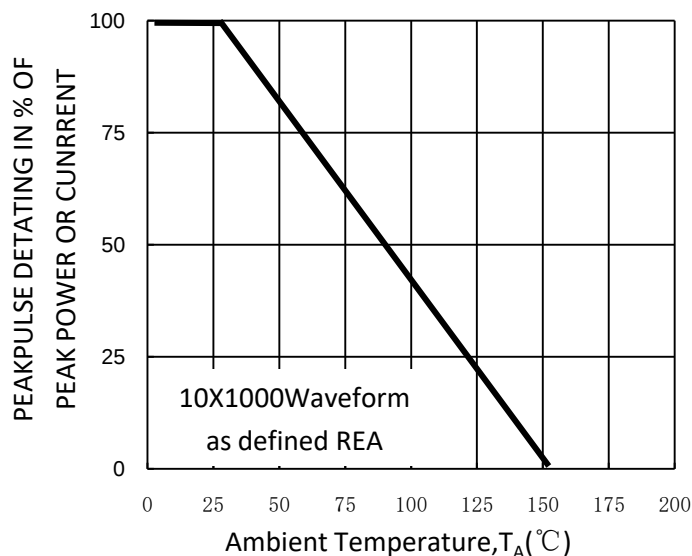
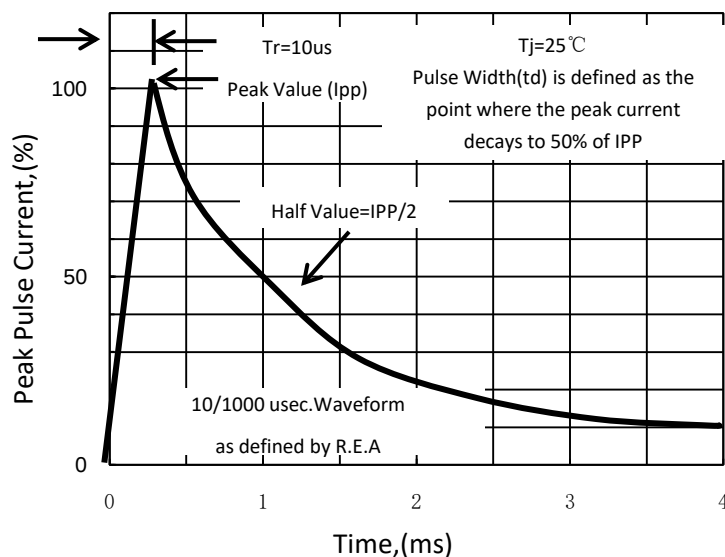

Fig. 1-Pulse Derating Curve
Fig. 5-Pulse Waveform
1)Non-repetitive current pulse per Fig.5 and derated above T_A= 25 °C per Fig.1 ;